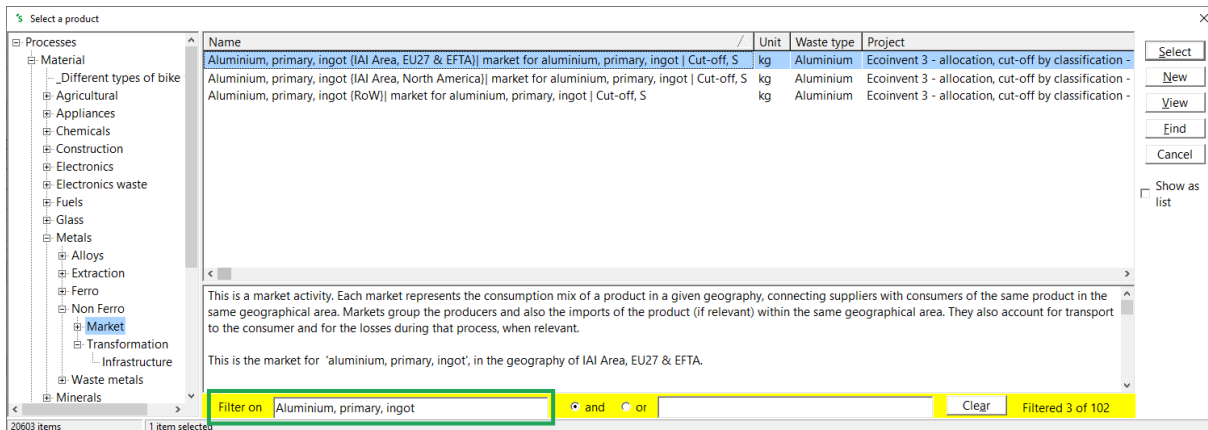

Figure 3.2 Filter on a material, product, or process
- 2) Under Inputs from technosphere: materials/fuels field, enter the materials and processes involved to produce the aluminium frame as seen in Table 3.4. Select category *Material*, sub-category Metals > Non Ferro > Market and then choose Aluminium, primary, ingot {IAI Area, EU27 & EFTA} | market for aluminium, primary, ingot | Cut-off, S. Otherwise, you can also click *Show as list* and then filter on the correspondence keywords (See Figure 3.2). Once the process is selected, fill in 1.579 as the amount and kg as the unit. Since 1.579 kg of primary aluminium ingot is used for producing the final aluminium frame with a 5% production loss, you can mention this as an additional comment in the Comment field.